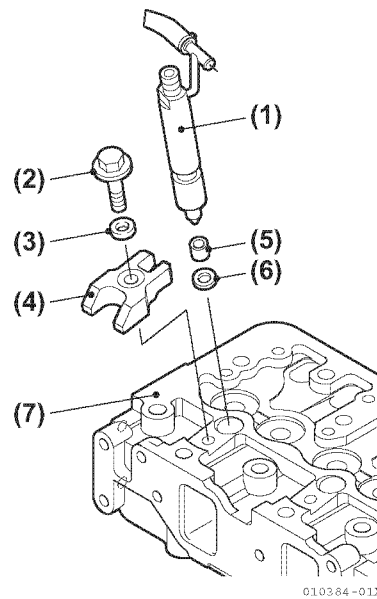

Figure 6-10
7. If the injection nozzle gasket did not come out together with the injection nozzle, remove it from the bottom of the injection nozzle seat (**Figure 6-10, (6)**).